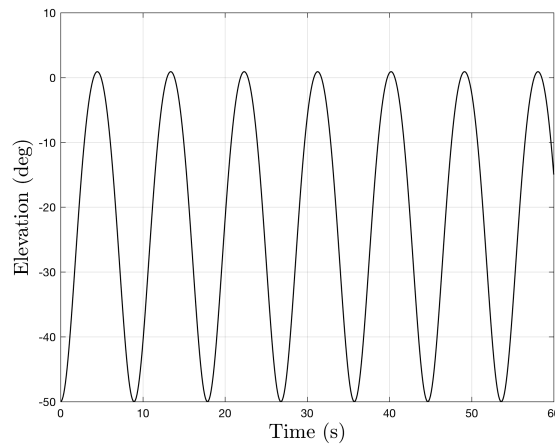

Figure 2: Typical open-loop elevation response of the simulated helicopter with both input voltages set to U_e .
- Define a small value for the equilibrium control voltage, say $U_e=2$. Modify your SIMULINK block diagram `OpenLoopSys.mdl` so that the input to both power amplifiers is U_e . Simulate the open-loop response of the helicopter and study the response about the elevation axis. You should notice that the helicopter has failed to gain any elevation. Increase U_e until the value where any subsequent increase causes the helicopter to saturate at its upper elevation limit. At this value of U_e , the simulated helicopter should display an oscillatory response about the elevation axis, similar to that shown in Figure 2. Make a note of this voltage. Note that this is not quite how U_e is defined in the notes. Owing to the dynamics of the model it is not possible to find a value of U_e that makes the simulated helicopter achieve a stable, hovering position, but this value will be close enough for you to assume they are the same.